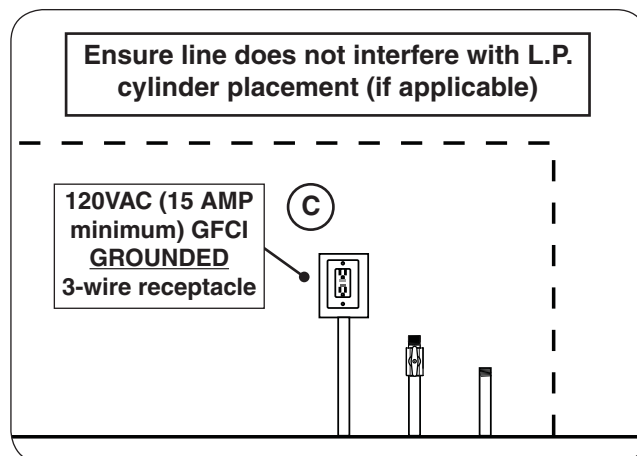

Fig. 18-2 Route electrical (receptacle)
1. Wire the receptacle into the area that the hearth will rest over (see Fig 18-2, C).